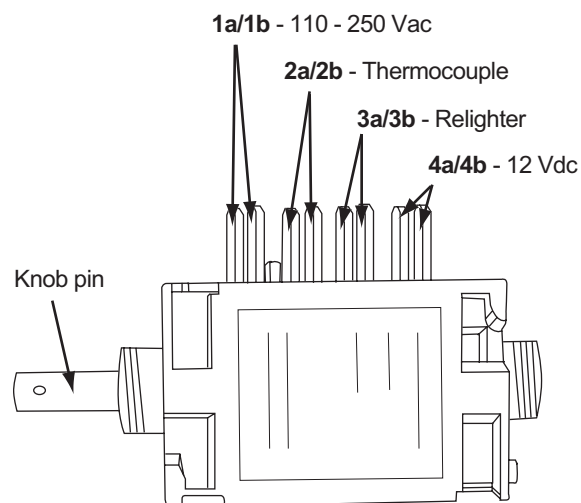

Figure 40. Selector switch wiring
9. Mark selector switch wiring for ease of reinstallation. See Figure 40.